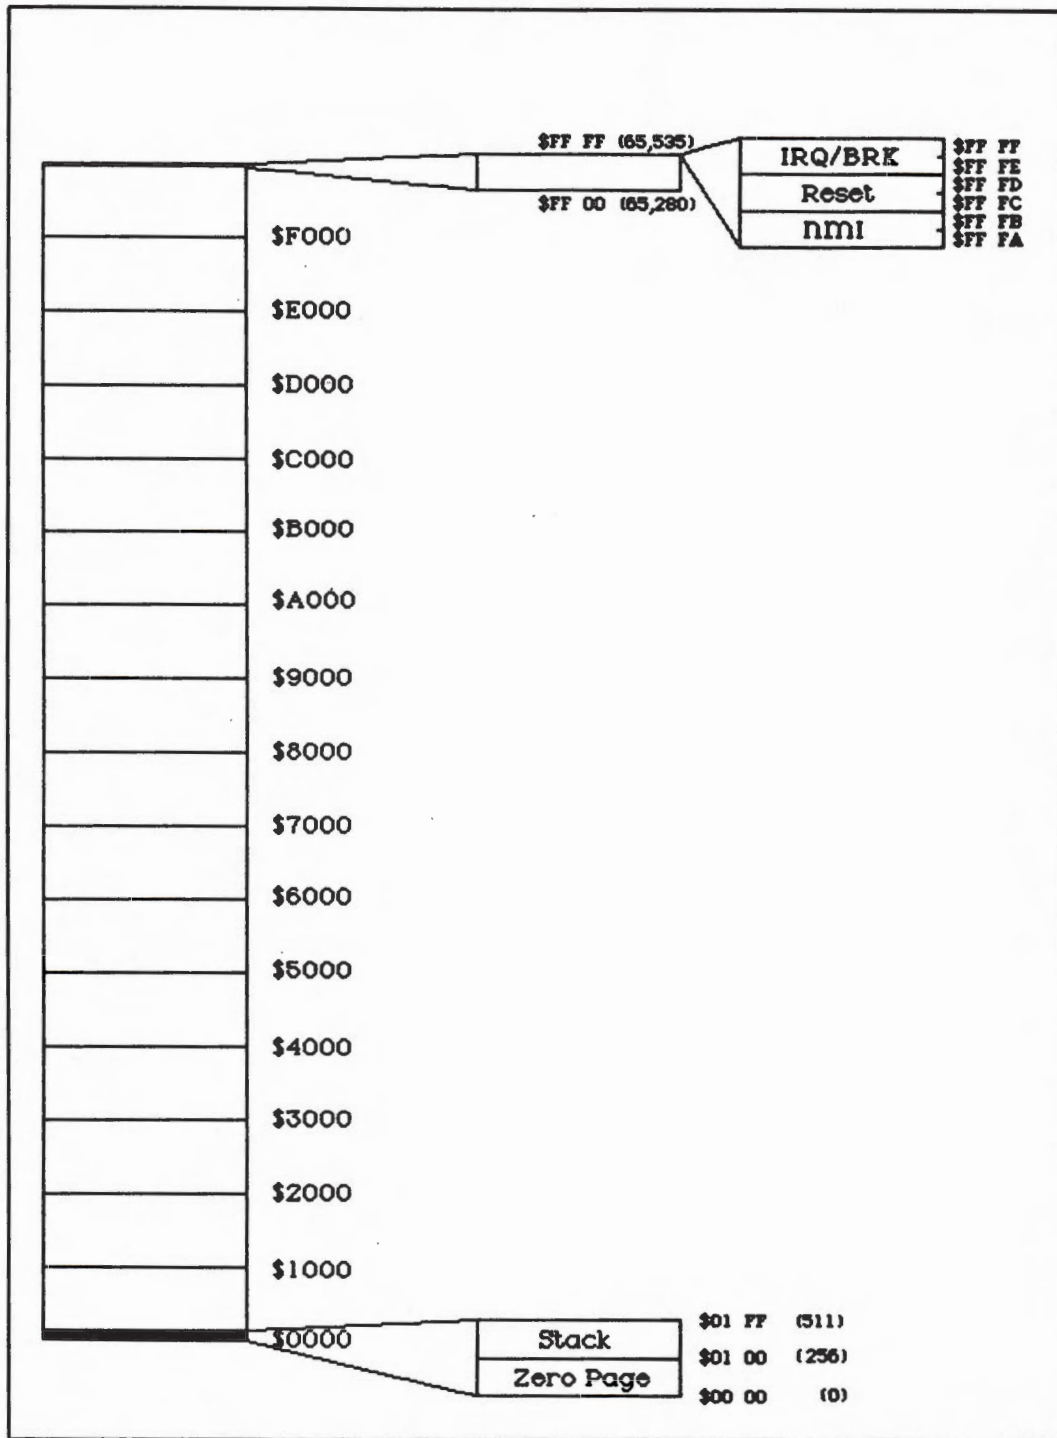

Fig. 21.2 Landmarks for the 6502. The first 512 bytes and the highest six bytes have special meanings for the microprocessor.
The 6502’s landmarks are marked out in Figure 21.2 with some appropriate blow ups of the critical regions. As you can see, the zero page, the stack and the special reset and interrupt vectors don’t take up very much space and leave a great open expanse between page \$02 and page \$FF (255). A memory map of a Rockwell or a Commodore computer will also show these characteristic reserved areas.